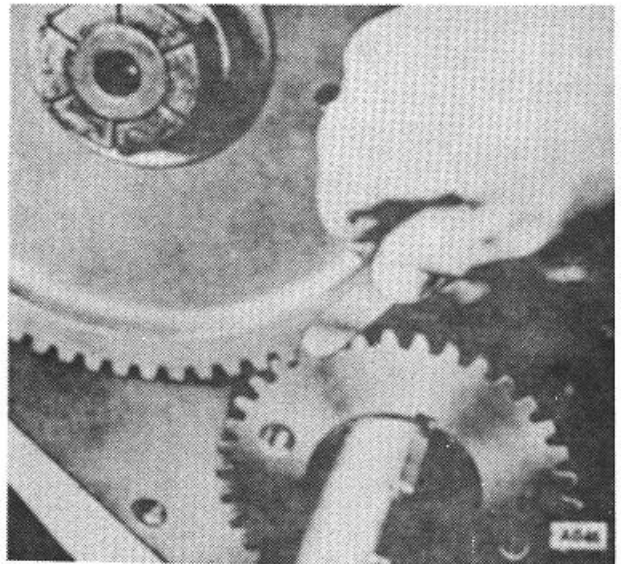

**Figure 44.**
1. Tappets must be inspected visually for scores or damage to the contact face. Two or three small pits in the latter is acceptable. More than that calls for replacement of the tappets. (Fig. 44)